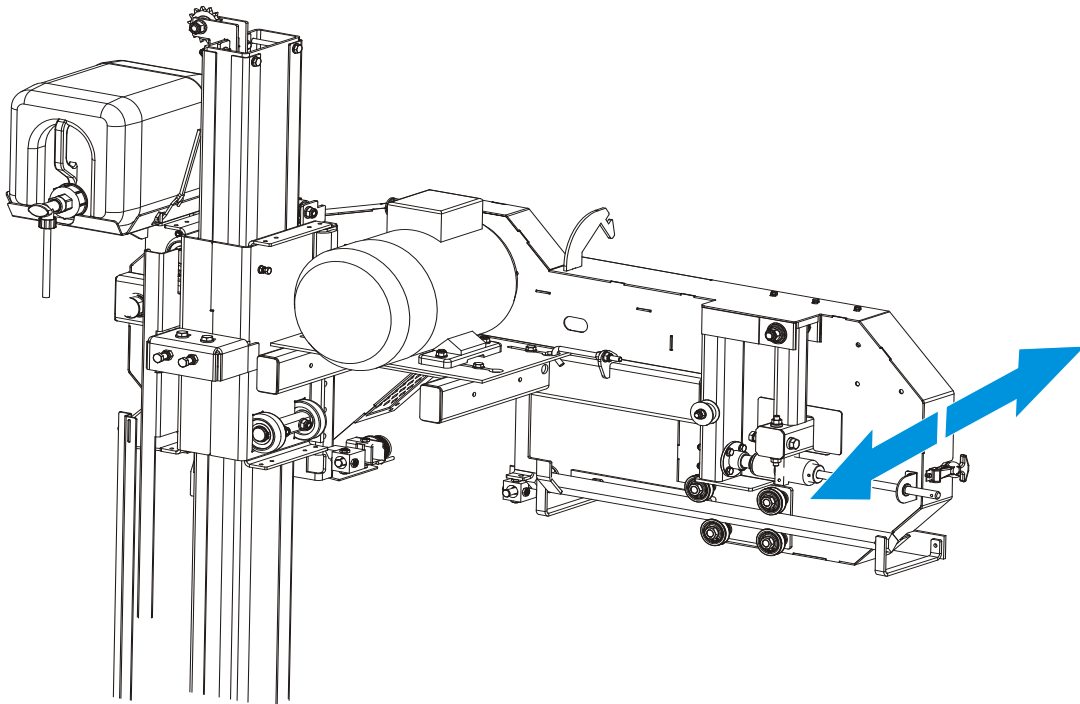

FIG. 6-15
See Figure 6-15. To check if the backlash is present, grasp the outside part of the saw head and move it as shown in the figure below. To remove the backlash, perform the following steps:
1. Loosen the nuts on the adjustment bolts and the set screws shown in Figure 6-15, adjust the mast guide rollers as shown in Figure 6-15.